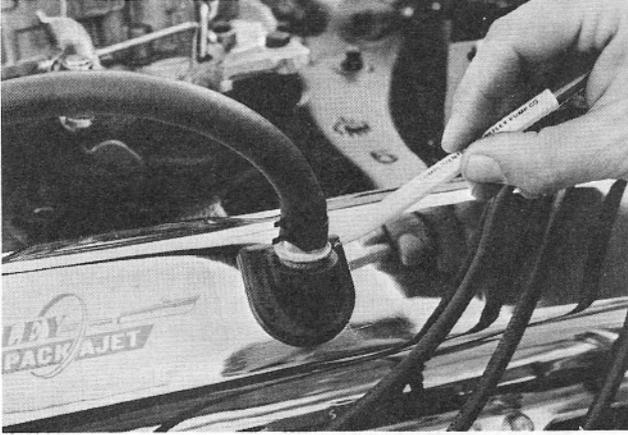

Figure 22
**E. CRANKCASE VENTILATION VALVE** Once every 12 months the crankcase ventilation (P. C. V.) valve located in the opposite valve cover should be replaced and the remainder of this system cleaned as outlined above for the crankcase ventilation filter (Figure 22).